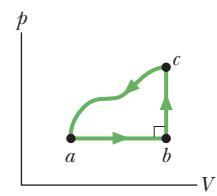

Figure 18-51
**69** Figure 18-51 displays a closed cycle for a gas. The change in internal energy along path  $ca$  is  $-160$  J. The energy transferred to the gas as heat is  $200$  J along path  $ab$ , and  $40$  J along path  $bc$ . How much work is done by the gas along (a) path  $abc$  and (b) path  $ab$ ?